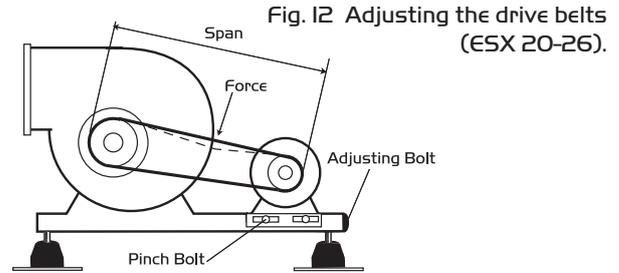

Fig. 12 Adjusting the drive belts (ESX 20-26).
1. Measure the span length (See fig. 12).
2. At the centre of the span, apply a force at right angles to the belt sufficient to deflect one belt 16mm for every metre of span length (see fig. 12). The force required to deflect the 'V' belt should be from 0.5kg to 0.8kg.